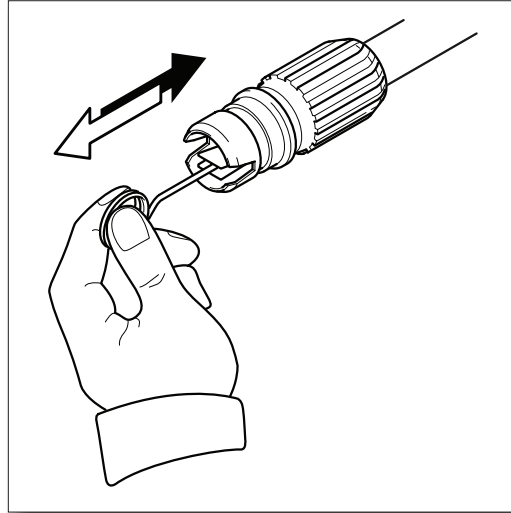

Fig. 23
- Using the nozzle tip cleaner provided (or an unfolded paper clip), insert the wire into the nozzle hole and move back and forth until debris is dislodged **(Fig. 23)**. Back /flush water through the nozzle using garden hose and highest pressure available (either standard water nozzle or use your thumb over the nozzle to create water pressure for back flush).